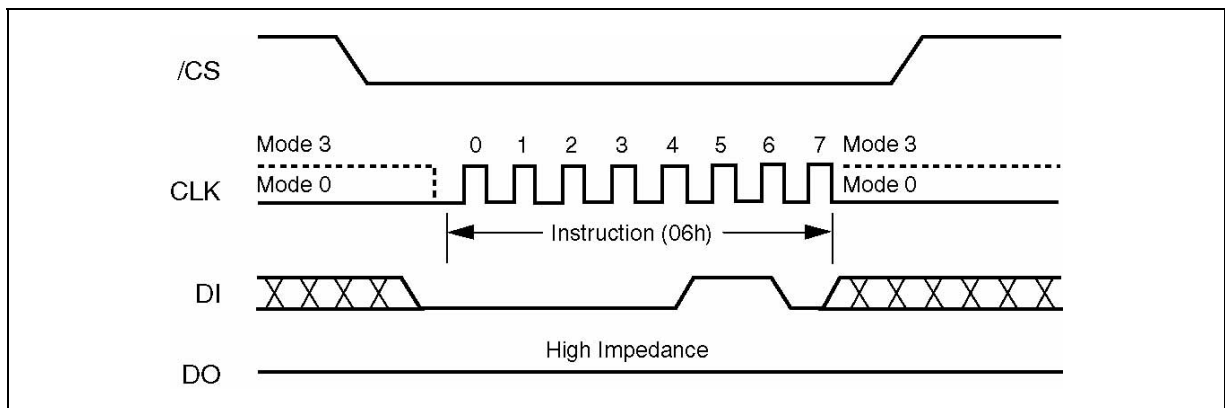

Figure 5. Write Enable Instruction Sequence Diagram
The Write Enable instruction (Figure 5) sets the Write Enable Latch (WEL) bit in the Status Register to a 1. The WEL bit must be set prior to every Page Program, Sector Erase, Chip Erase and Write Status Register instruction. The Write Enable instruction is entered by driving /CS low, shifting the instruction code "06h" into the Data Input (DI) pin on the rising edge of CLK, and then driving /CS high.